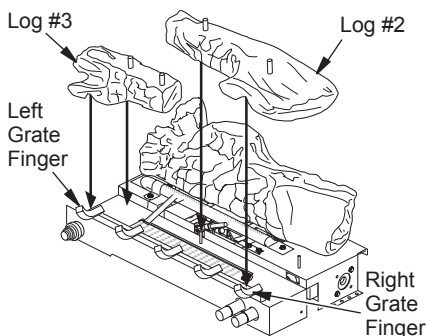

Figure 25 - Installing Logs #2 and #3
2. Align pin at center of base with hole in right bottom log (#2) and notch in front of log to right grate finger. Place log on base as shown in Figure 25.
3. Align notch on left bottom log (#3) with left grate finger and place log on base as shown in Figure 25.